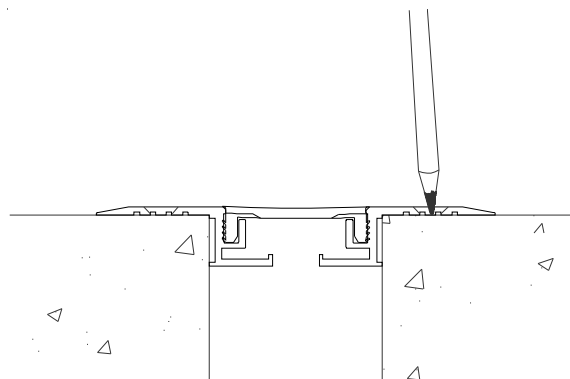

Figure 6
STEP 10. Using the assembled joint cover as a template, mark the location for an anchor on the concrete (see Figure 6). Attach the base member to the high section of the high side of the joint first. Drill the anchor hole into the concrete at the marked locations. Drill the anchor holes 1/4" deeper than the length of the anchors. Clean away all dust and debris from the substrate.